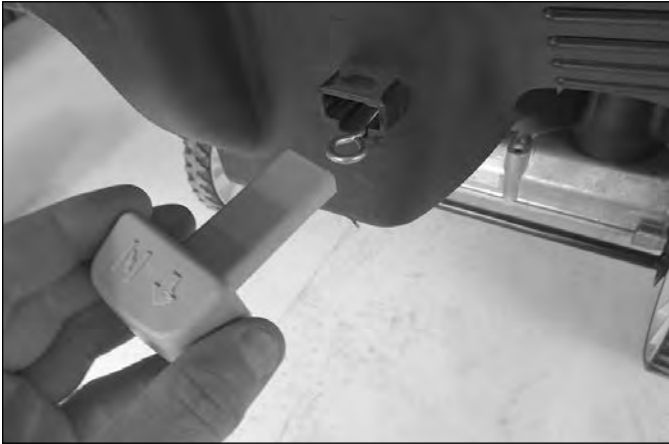

Fig. 024
6. Slide the choke wire through the lower shroud and install the choke knob and screw (Fig. 024).